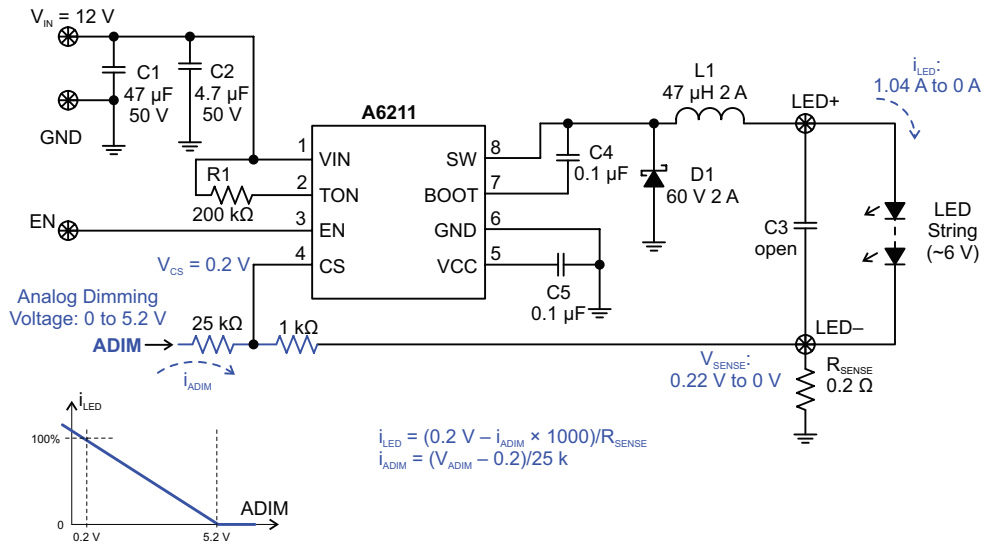

Figure 17: Analog Dimming of LED Current with an External DC Voltage
- Figure 17 shows analog dimming of LED current by an external DC voltage.